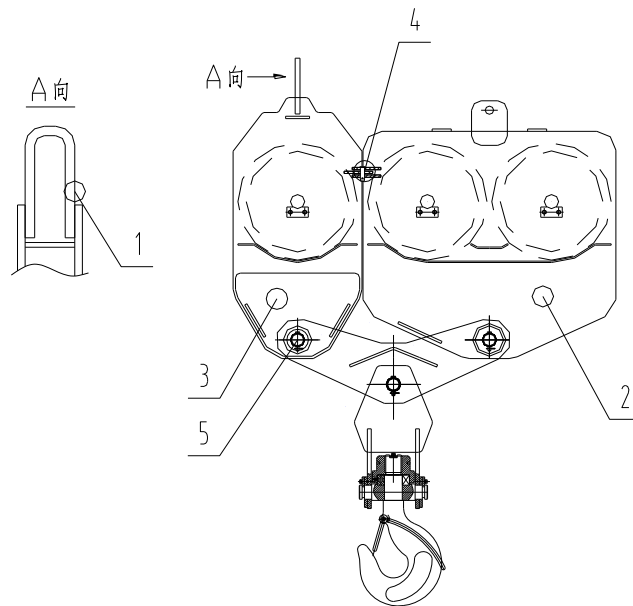

Fig. 4-56 Hook
- 3) Operate the hoisting mechanism, place down main hook and auxiliary hook on the ground, insert pin a and pin b, connect main hook and auxiliary hook together (Fig. 4-56), then realize the conversion 2-fall to 4-fall.